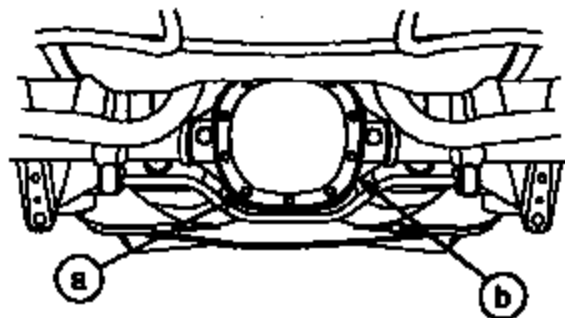

FIGURE 4
5. Remove the differential housing cover (refer to Figure 4).
a. Remove the ten (10) differential housing cover bolts and drain the lubricant from the rear axle housing.